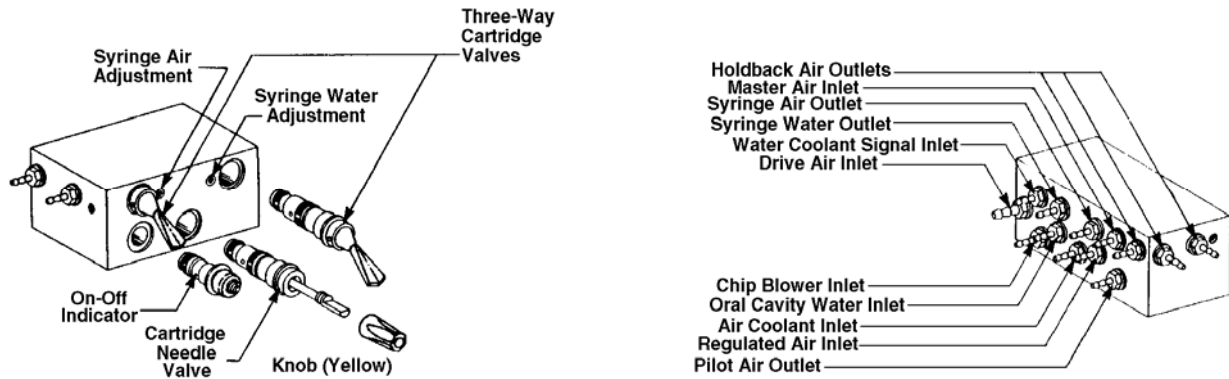

Figure 4-2. Master block assembly.
a. **Master Block Assembly.** Refer to figure 4-2. The master block houses the master ON-OFF valve, the ON-OFF indicator, the air coolant flow control, the water coolant ON-OFF valve, and the syringe flow controls. All the working components are accessible from the front of the unit and are of the "cartridge" design, so they can be serviced without disconnecting any tubing.